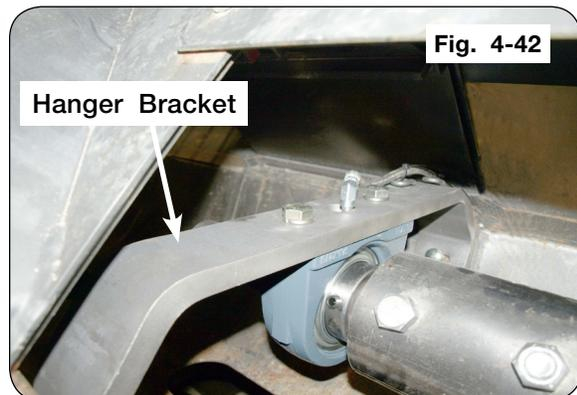

Fig. 4-42
33. If hanger bracket was adjusted up, torque hanger bracket capscrews to 130 ft.-lbs. (Fig. 4-42)